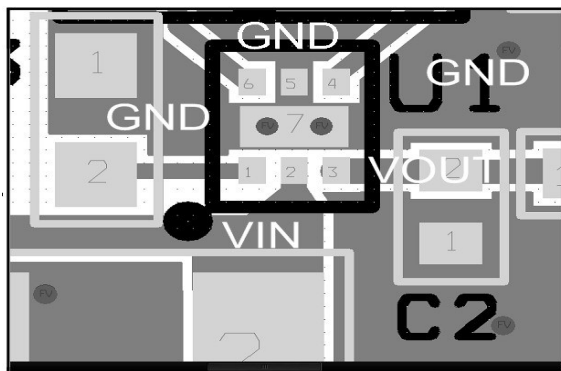

Figure 27: Proper layout of output and ground copper area
3. The V_{IN} , V_{OUT} and GND pins will dissipate most of the heat generated during a high load current condition. Using wide traces will help minimize parasitic electrical effects along with minimizing the case to ambient thermal impedance. The layout suggested in Figure 27 provides each pin with adequate copper so that heat may be transferred as efficiently as possible out of the device. The low-power FLAGB and ON pin traces may be laid-out diagonally from the device to maximize the area available to the ground pad. Placing the input and output capacitors as close to the device as possible also contributes to heat dissipation, particularly during high load currents.